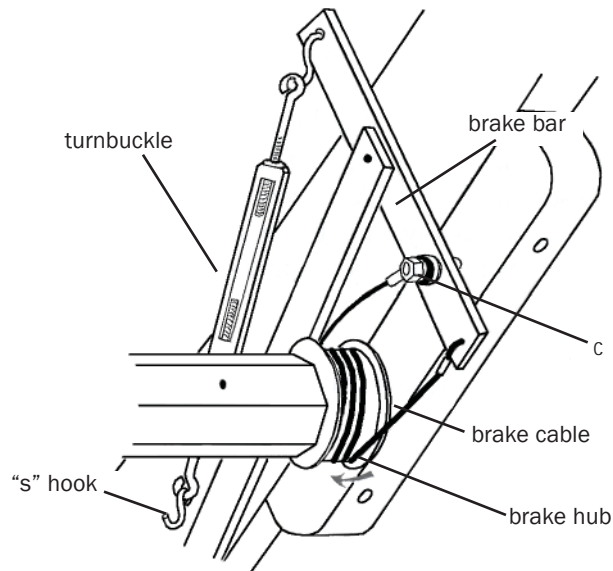

Figure 5
12. Lay the double warp beam brake pedal assembly out on the floor so that the brake release pedal, the brake release upright and the brake bar are aligned as in figure 5.